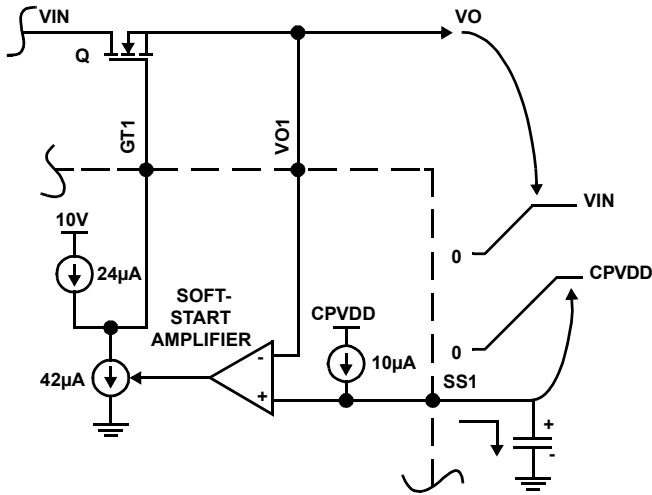

FIGURE 12. SOFT-START OPERATION
The output voltages are monitored through the Vo pins and slew up at a rate determined by the capacitors on the Soft-start (SS) pin, as illustrated in Figure 12. 24µA of gate charge current is available. The soft-start amplifier controls the output voltage by robbing some of the gate charge current thus slowing down the MOSFET enhancement. When the load voltage reaches its set level, as sensed by its respective UV pin through an external resistor divider, the Power Good (PG) output goes active.
$I_{INRUSH}$  is the sum of the dc steady-state load current and the load capacitance charging current. If the dc steady-state load remains disabled until after the soft-start period expires ( $\overline{PGX}$  could be used as a load enable signal, for example), then only the capacitor charging current should be used as  $I_{INRUSH}$ . The  $C_{SS}$  value should always be more than (1/2.4) of that of  $C_{ISS}$  of the MOSFET to ensure proper soft-start operation. This is because the  $C_{ISS}$  is charged from 24 $\mu$ A current source whereas the  $C_{SS}$  gets charged from a 10 $\mu$ A current source (please refer to Figure 12). In order to make sure both  $V_{SS}$  and  $V_O$  track during the soft-start, this condition is necessary.